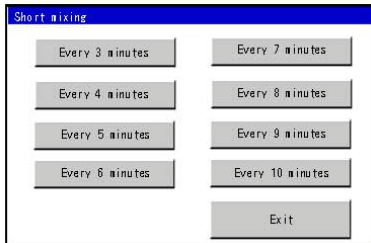

Figure 3-HHH
- The Short Mixing Window displays (Figure 3-HHH).